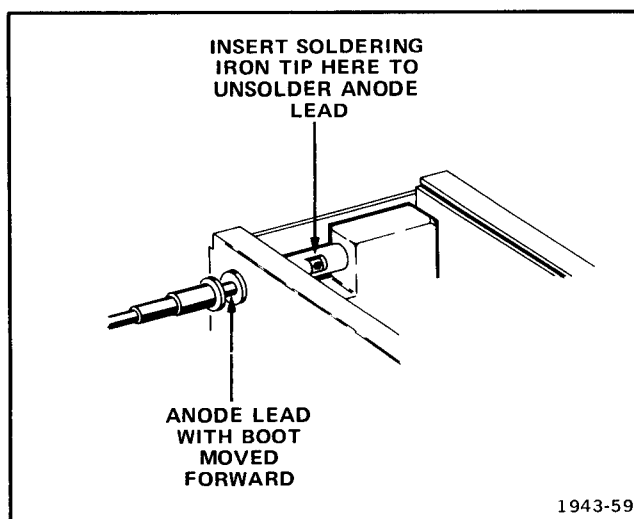

Fig. 4-11. Crt removal.
4. Slide the plastic boot on the anode lead toward the front of the 335 (see Fig. 4-11). Unsolder the anode lead.